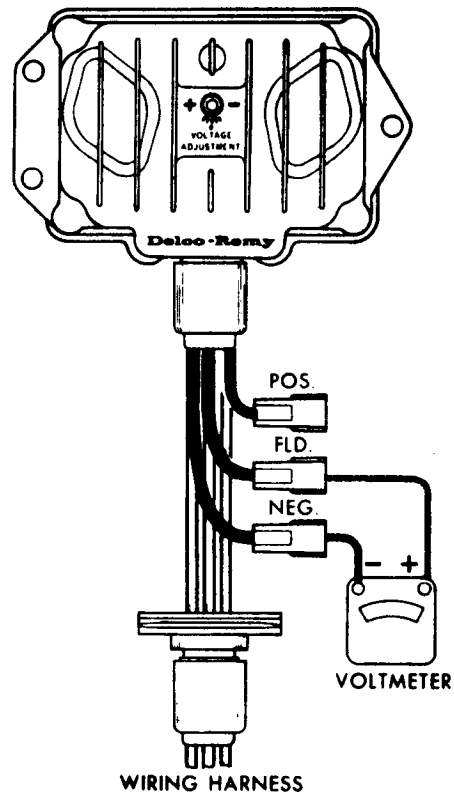

Figure 5 — Voltmeter connections to test adapter.
1. Connect a voltmeter to the test adapter as shown in Figure 5.
To check the regulator, connect a voltmeter as shown in Figure 5 and operate the engine at moderate speed. If the voltage is uncontrolled and increases with speed to values above the specified setting range, replace the regulator.